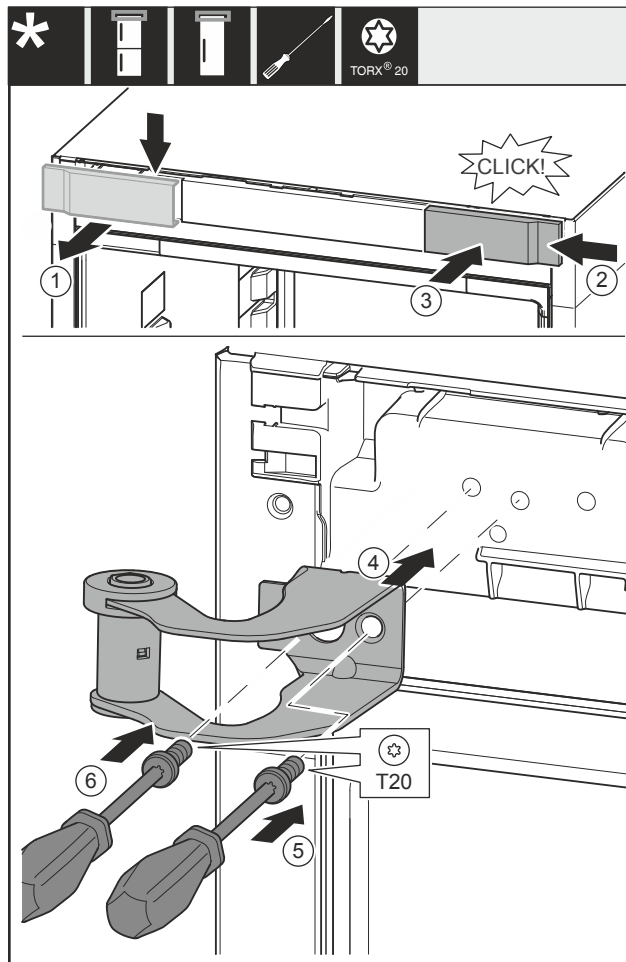

Fig. 13
- Remove the cover Fig. 13 (1) from the top towards the front.
- Hang the cover Fig. 13 (2) from the right turned by 180° to the other side.
- Snap in the cover Fig. 13 (3).
- Attach the top swap bearing block Fig. 13 (4).
- Tighten the screw Fig. 13 (5).
- Tighten the screw Fig. 13 (6).